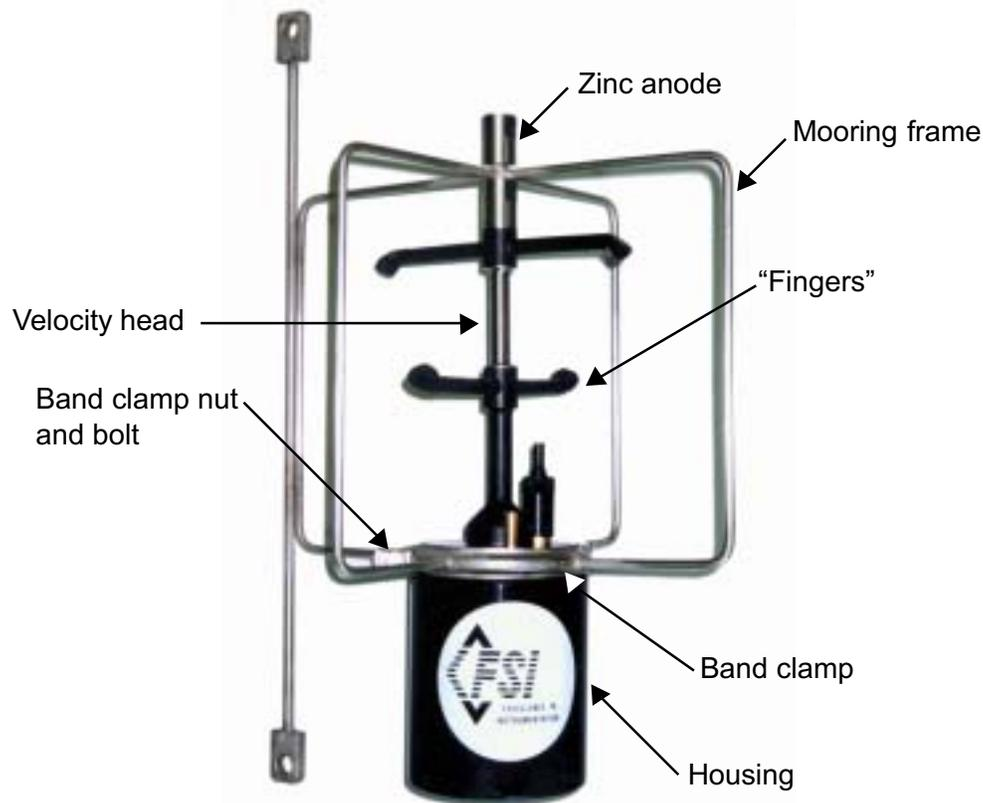
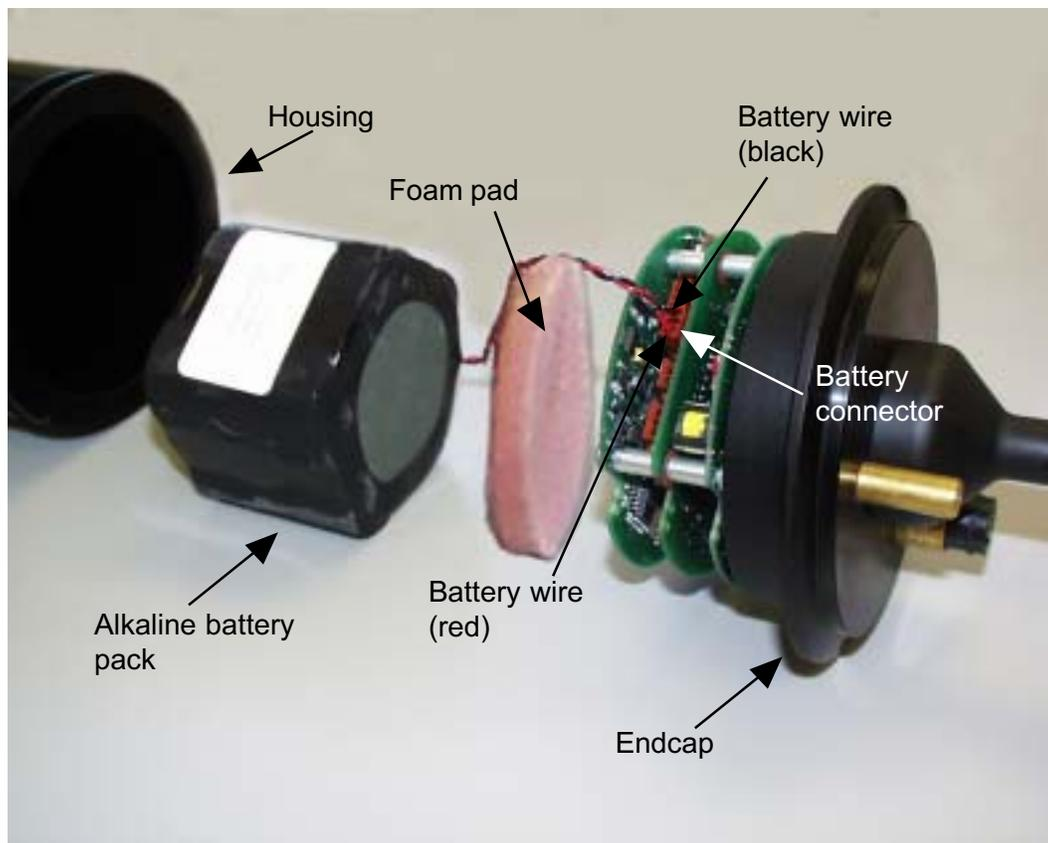

Figure 9-2: 2D-ACM with Mooring Frame
Figure 9-3: 2D ACM Disassembled for Battery Pack Replacement
In procedures that follow refer to Figure 9-2, which shows the 2D-ACM with its mooring frame, and to Figure 9-3 on page 9-4, which shows the disassembled 2D-ACM and its battery pack.
- 5 ▶ Attach the band clamp to the end cap, and then align the mooring frame with the “fingers” as shown in Figure 9-2 on page 9-3.